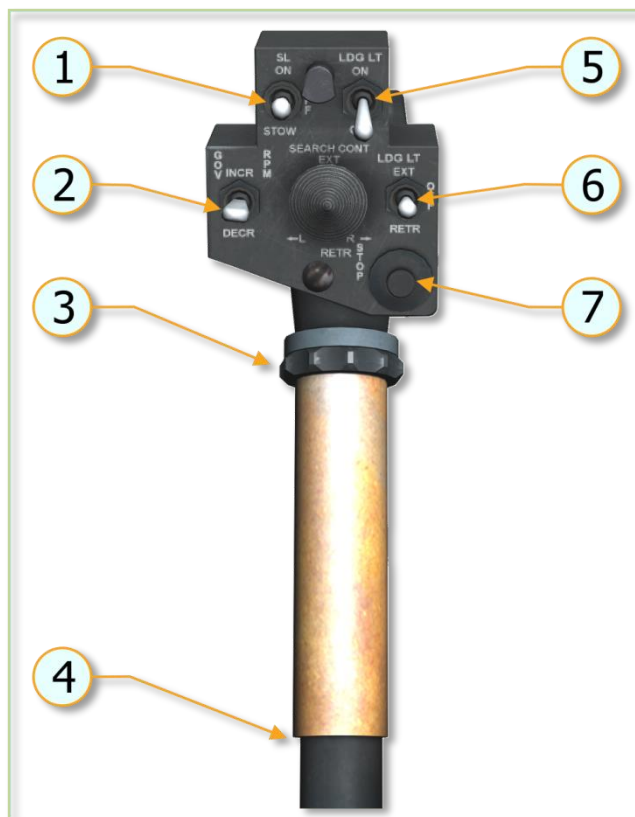

Figure 4.5. Stabilizer Bar.
B. STABILIZER BAR. The stabilizer bar is mounted on the main rotor hub trunnion assembly in a parallel plane, above and at 90 degrees to the main rotor blades (Figure 4.5).